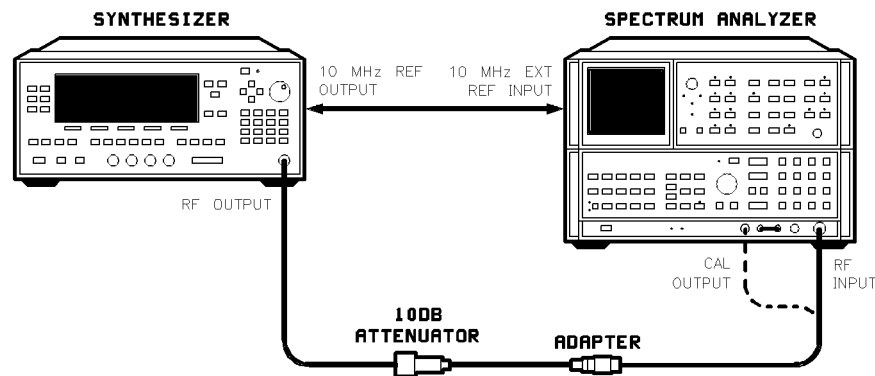
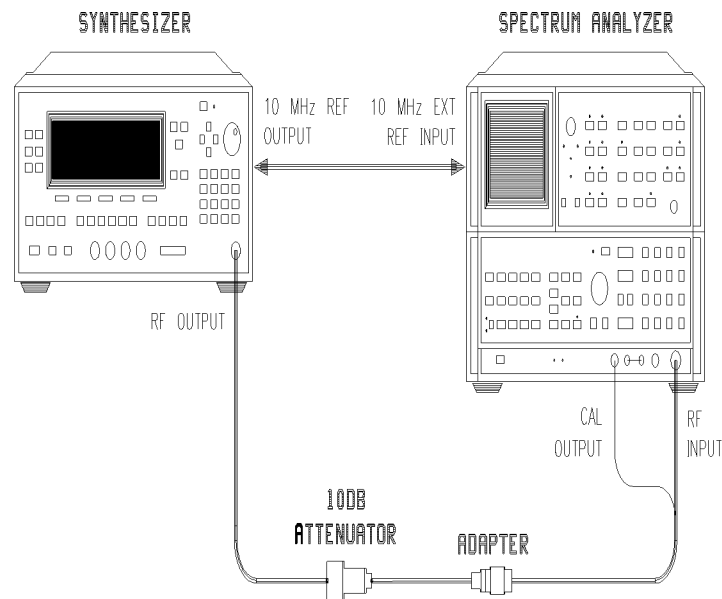

Figure 2-9. Spurious Signals (Harmonic) Test Setup < 20 GHz
Figure 2-10. Spurious Signals (Harmonics) Test Setup > 20 GHz
1. Turn on the equipment shown in Figure 2-9 and Figure 2-10. Preset the instruments and let them warm up for at least one hour.
3. Connect the equipment as shown in Figure 2-9.
13. Connect the equipment as shown in Figure 2-10 using the HP/Agilent 11970K Mixer (20 to 26.5 GHz).